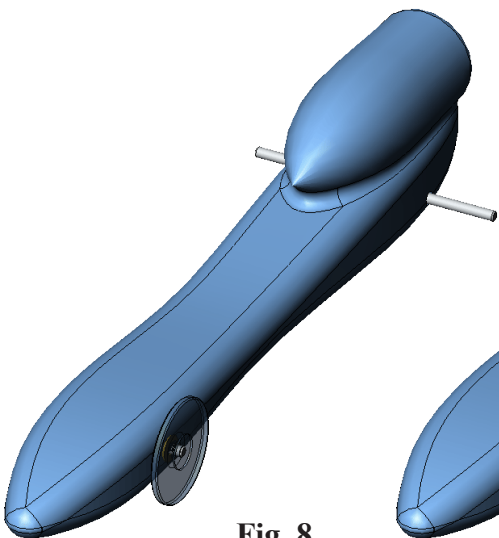
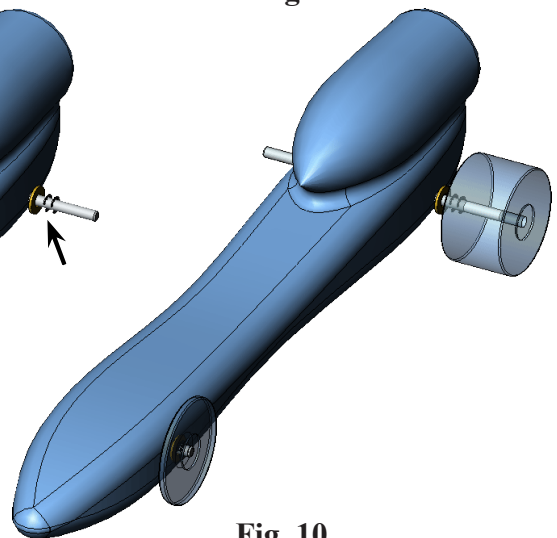

Fig. 8
Fig. 10
Step 18. Click Zoom to Fit  (F) on the View toolbar.
Step 19. Repeat, Browse and place at Rear Axle hole **REAR AXLE, WASHER, 2 E-CLIPS** and **REAR WHEEL**, **Fig. 8 - Fig. 10**.